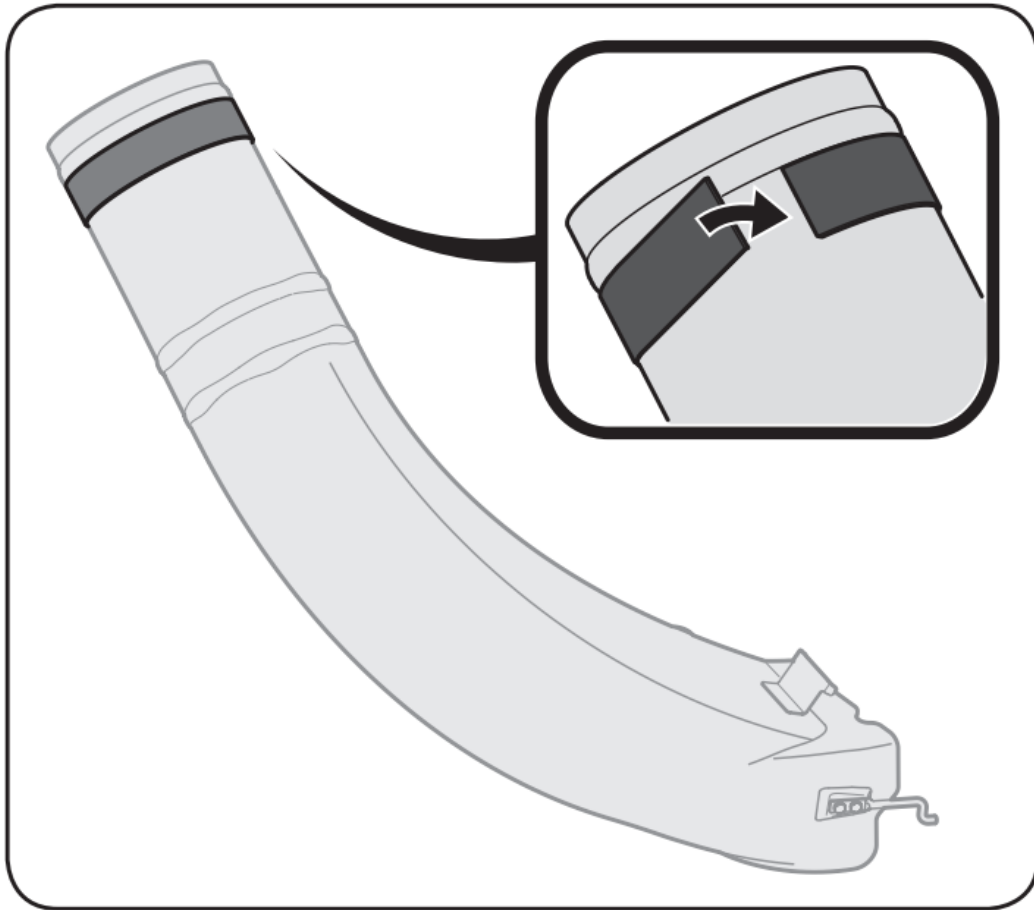

Figure 4-18
7. Apply the other wide adhesive rubber strip, included in Hardware Pack 689-00342, onto the upper end of the discharge chute elbow. Place the adhesive strip up against the ridge in the upper portion of the discharge chute elbow, as detailed in the inset of Figure 4-18.